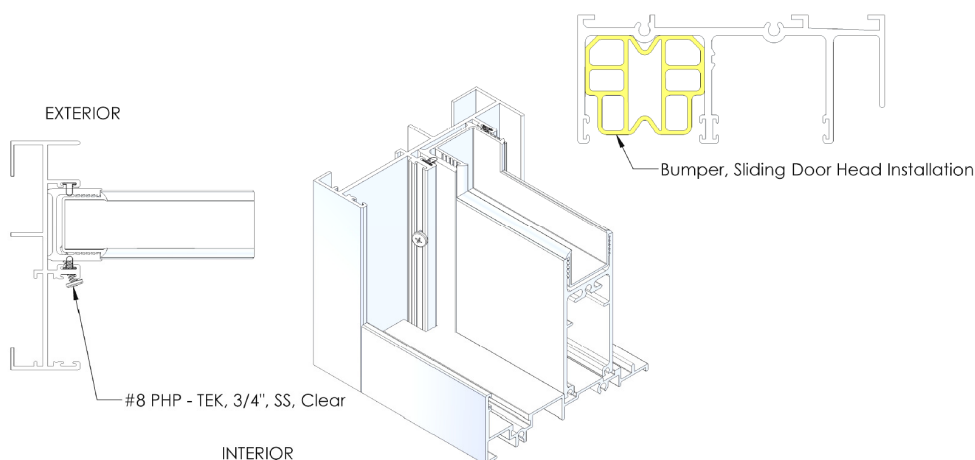

Figure 19:
11. Install one (1) #8 x ¾" pan head TEK security screw into the predrilled hole in the mohair channel (below the glass line), near to the bottom of the fixed jamb (Figure 19).